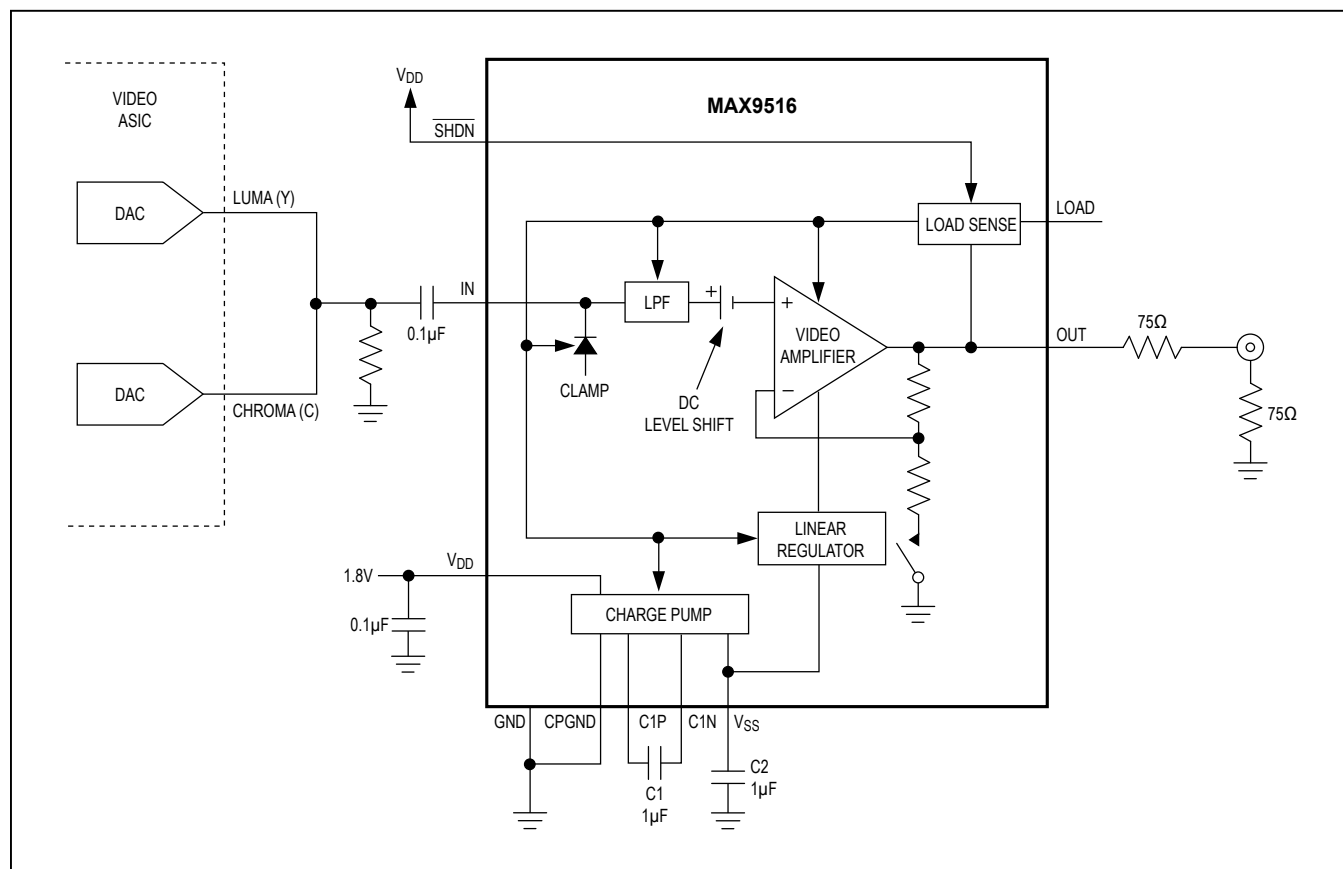

Figure 6. Luma (Y) and Chroma (C) Signals Added Together to Create Composite Video Signal (Which is AC-Coupled Into the MAX9516)
In some applications, the video source generates a signal with a positive DC voltage bias, i.e., the sync tip of the signal is well above ground. Figure 6 shows an example in which the outputs of the luma (Y) DAC and the chroma (C) DAC are connected together. Since the DACs are current mode, the output currents sum together into the resistor, which converts the resulting current into a voltage representing a composite video signal.